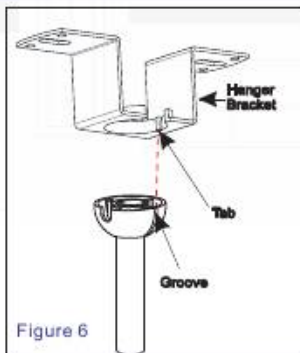

Figure 6
6. Carefully lift the fan, and set the downrod / hanger ball assembly on the hanger bracket attached to the ceiling joist. Be sure the groove in the ball is properly aligned with the tab on the hanger bracket. (Figure 6)